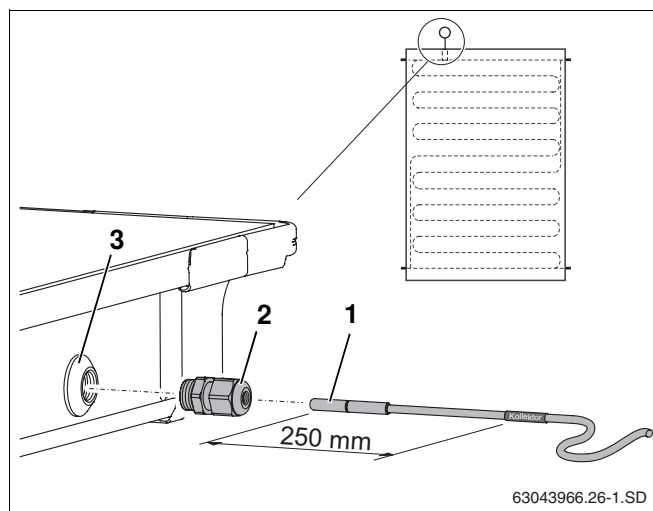

Fig. 54 Inserting the collector sensor into the collector
For perfect functioning of the solar thermal system, the collector sensor (Fig. 54, **Item 1**) needs to be inserted into the sensor guide tube as far as it will go (approx. 250 mm).
- Using the collector sensor or screwdriver, push through the sealing membrane on the sensor bushing (Fig. 54, **Item 3**).
- Screw compression fitting (Fig. 54, **Item 2**) into sensor bushing.
- Tighten compression fitting (Fig. 54, **Item 2**), counterhold if necessary.
If you accidentally push through the sensor bushing (Fig. 54, **Item 3**) on the wrong collector, it can be resealed using the plug from the connection kit. You must first remove the nut in the sensor bushing using the cable gland (Fig. 54, **Item 2**).